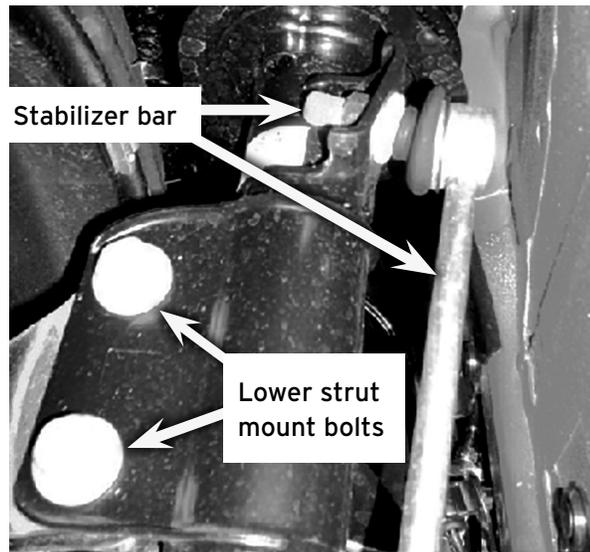

Fig. 4
2. Disconnect the stabilizer bar from the strut body. (Fig. 4)
3. Support the hub, then unbolt and remove the two lower strut mount bolts. (Fig. 4)